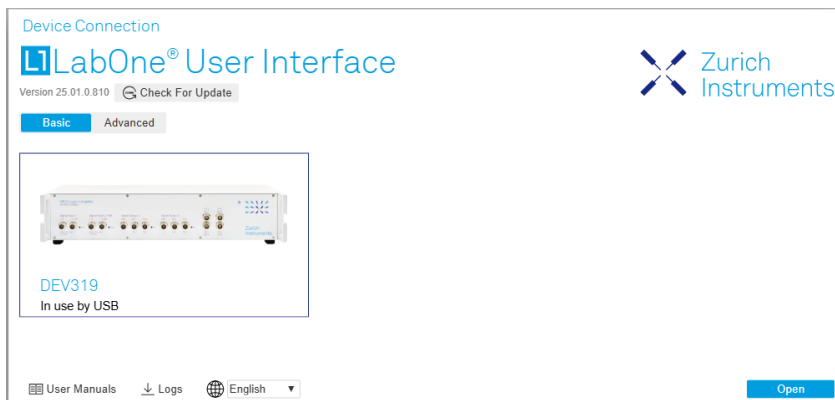

Figure 2.12: Device Connection dialog
3. You can now start the LabOne User Interface as described in Subsection 2.5.5, "LabOne Software Start-up", on page 17 and choose an instrument to connect to via the Device Connection dialog shown in Figure 2.12, "Device Connection dialog", on page 18.
After starting LabOne, the Device Connection dialog Figure 2.12 on page 18 is shown to select the device for the session. The term "session" is used for an active connection between the user interface and the device. Such a session is defined by device settings and user interface settings. Several sessions can be started in parallel. The sessions run on a shared LabOne Web Server. A detailed description of the software architecture can be found in the Subsection 2.5.1, "LabOne Software Architecture", on page 15 .
long as the Web Server is running and the session did not yet time out, it is possible to just attach to the existing session and continue. Thus, within about 15 seconds it is possible with **Retry** to recover the old session connection. The **Reload** button opens the Device Connection dialog shown in Figure 2.12 on page 18 . The figure below shows an example of the Connection Lost dialog.
If a session error cannot be handled, the LabOne Web Server will restart to show a new Device Connection dialog as shown in Figure 2.12 on page 18 . During the restart a window is displayed indicating that the LabOne User Interface will reload. If reloading does not happen the same effect can be triggered by pressing F5 on the keyboard. The figure below shows an example of this dialog.